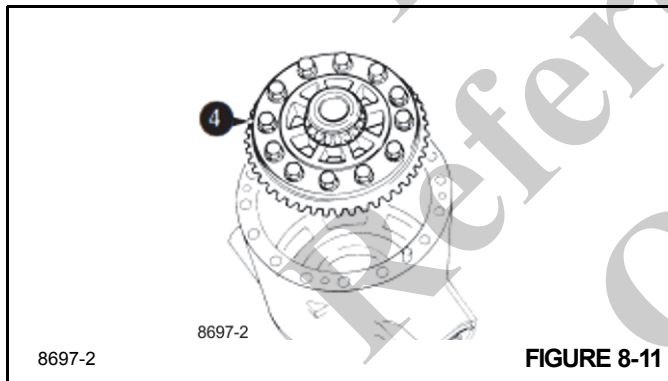

FIGURE 8-11
4. Lift out the crownwheel/differential assembly (Figure 8-11).